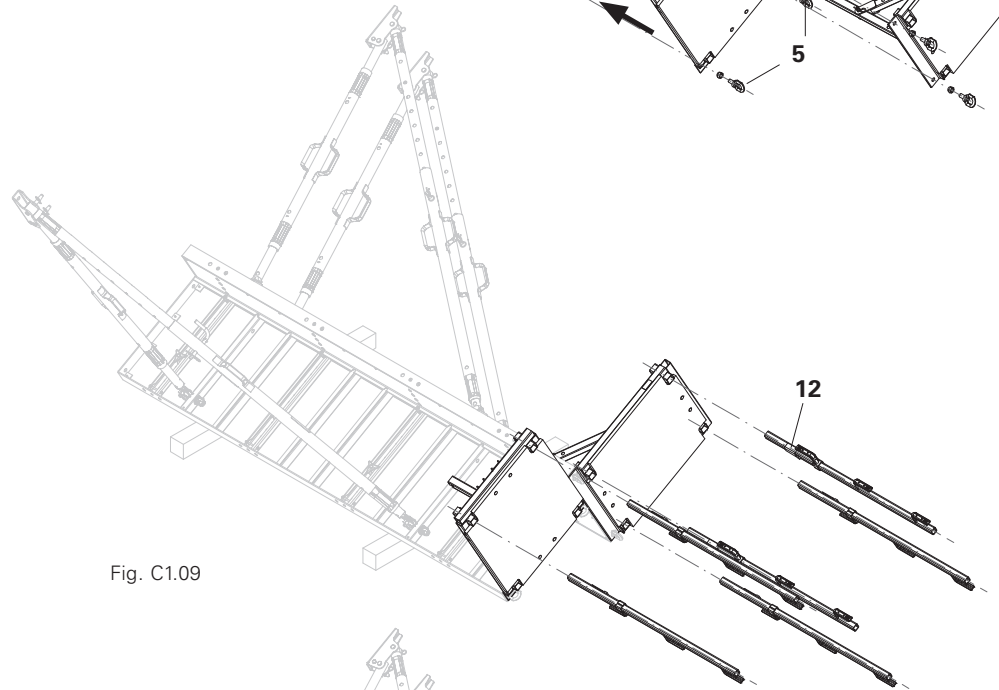

Fig. C1.09
2. Insert Guardrail Posts HSGP (12). (Fig. C1.09)